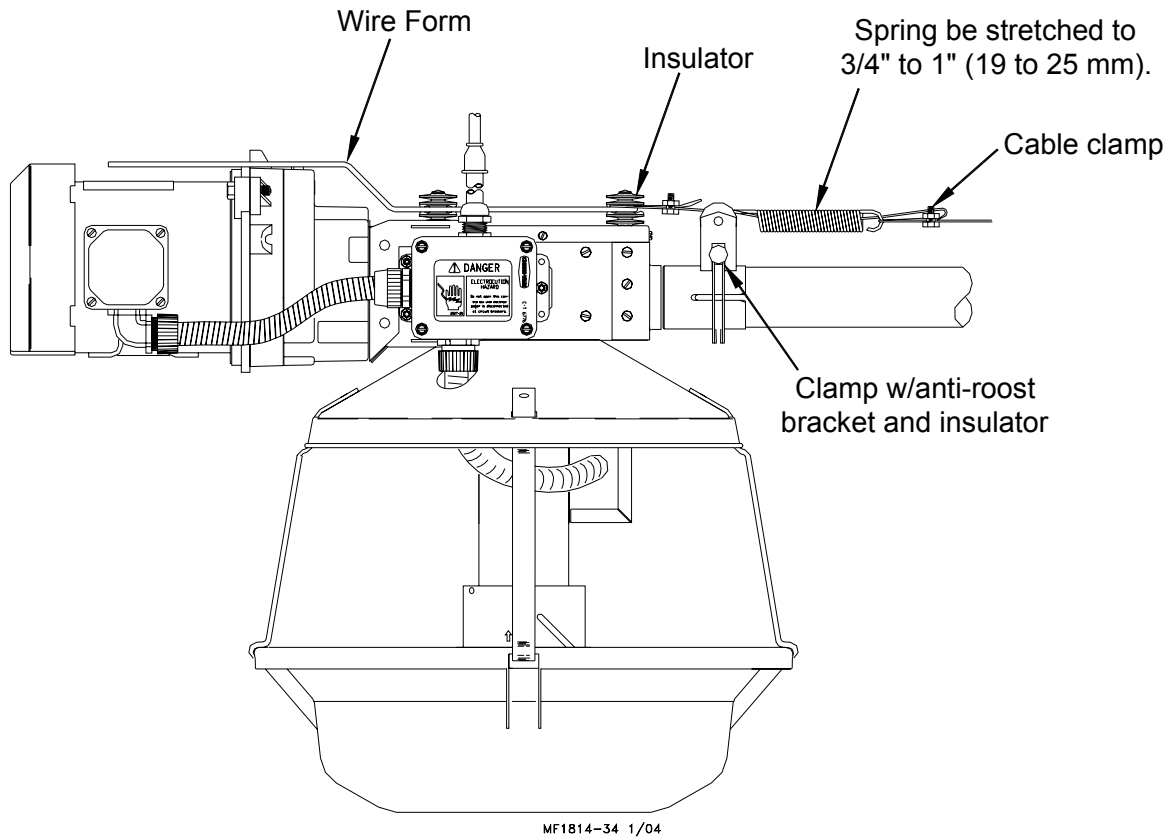

Figure 51. Anti-Roost Installation at the Control Unit
9. At the control unit, after clamping the cable to the spring, cut the cable 8" to 10" (200 to 250 mm) longer than necessary. Feed the end of the cable through the center of the spring, around the first insulator on the control unit, and clamp the cable using the cable clamp supplied with the control unit, see figure 51.
10. Install the wire from on the control unit insulators. Be sure the guard snaps into the retainers molded into the insulators, see figure 51.